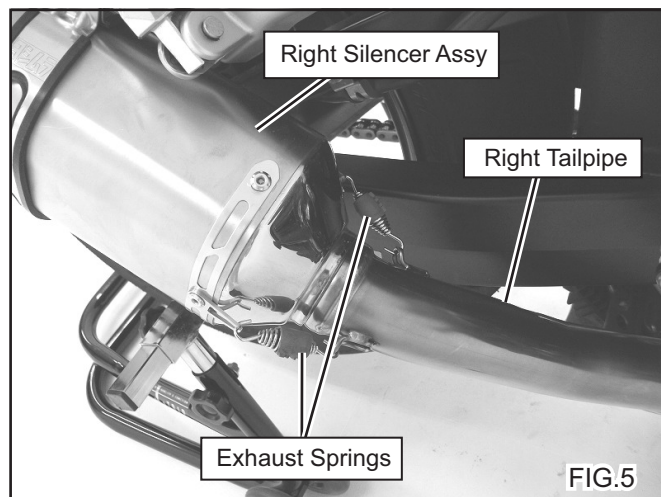

FIG.5
- 5) Put Right Silencer Assy on Right Tailpipe And, install 2 Exhaust Springs on each spring hook using installing tool (See Fig. 5).